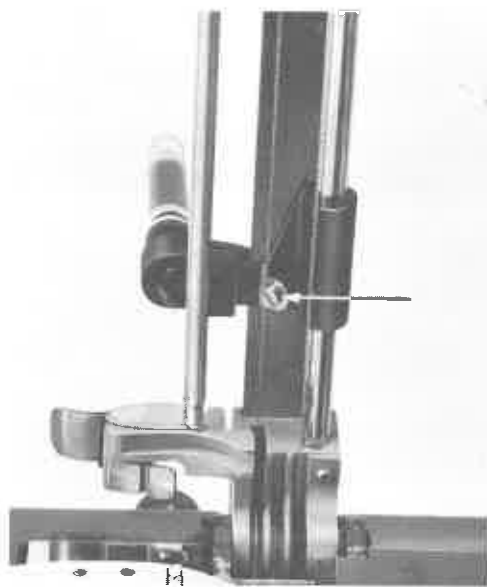

Fig. 2-8 Pen Carriage Adjustment Screw
- f) Press the pen against the chart paper, if the mark made by the pen does not correspond with zero on the chart paper, raise the pen bridge, slacken the pen adjustment screw (Fig. 2.8) and reposition the pen carriage along the drive chain. Re-tighten the screw, lower the pen bridge into the operating position.